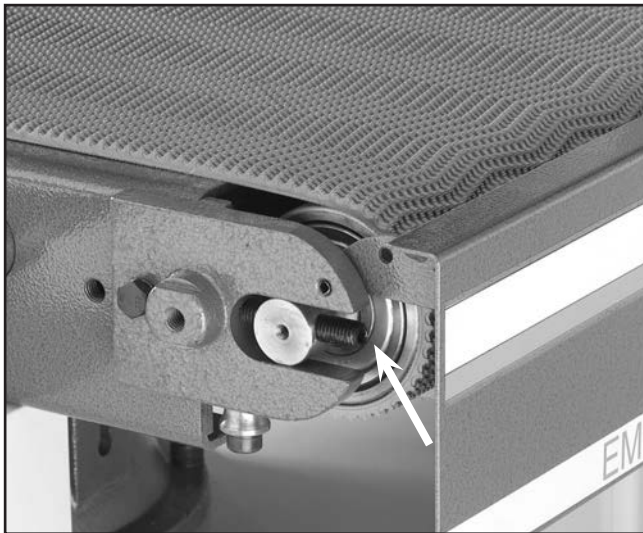

Figure 32. This is a feed belt adjustment bolt.
3. Tension adjustments are made using the bolts located on the left and right side of the front conveyor roller as shown in **Figure 32**.
2. Use the adjustment bolts (one is shown in **Figure 32**) to correct the tracking.